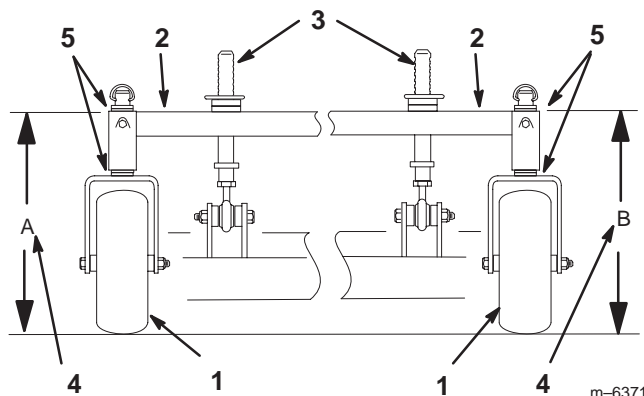

Figure 48
4. Measure carrier frame height at location A (Fig. 48).
5. Measure carrier frame height at location B (Fig. 48).